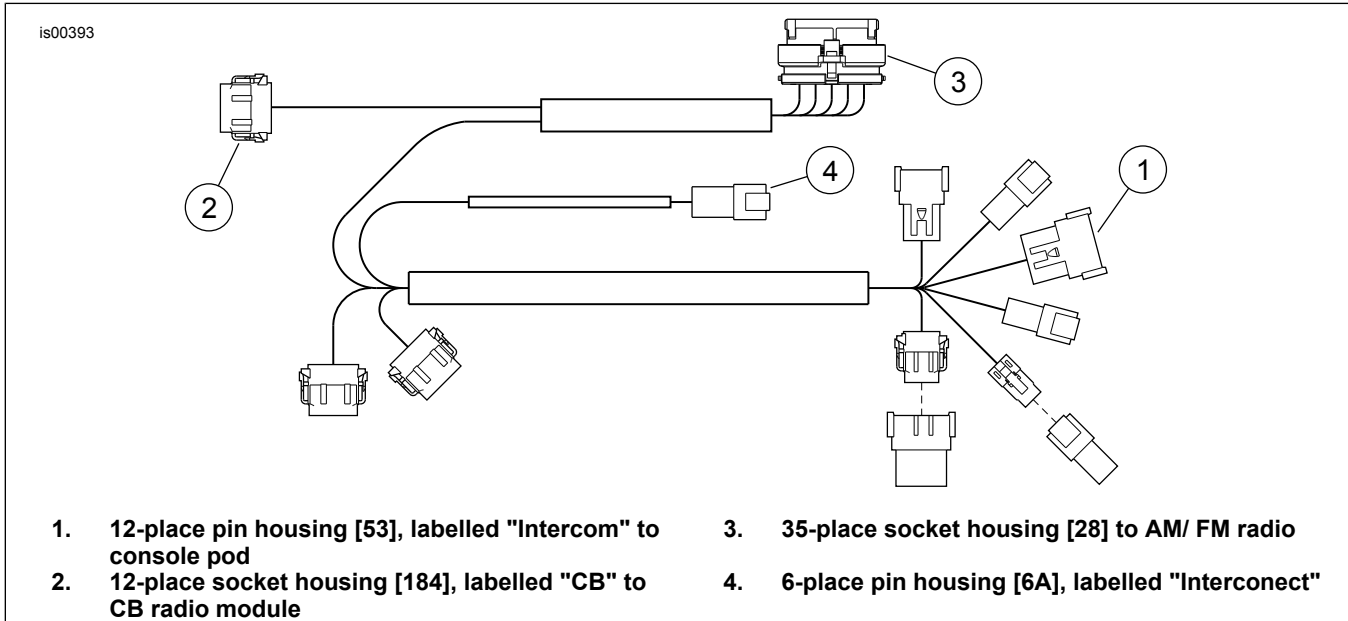

Figure 2. Non-Ultra Overlay Harness
10. Obtain the overlay harness (purchased separately), unless already installed. See Figure 2.
- a. Plug the overlay harness 12-place pin housing (1) labeled "Intercom" [53] into the socket housing coming from the console pod.
- b. Plug the overlay harness 12-place socket housing (2) labeled "CB" [184] into the pin housing coming from the back of the CB radio module.
- c. Plug the 35-place radio socket housing [28] (3) into the radio.
- d. Locate the interconnect harness audio connector [6B] near the back of the radio. Plug 6-way pin housing [6A] (4) on the overlay harness into socket housing [6B].